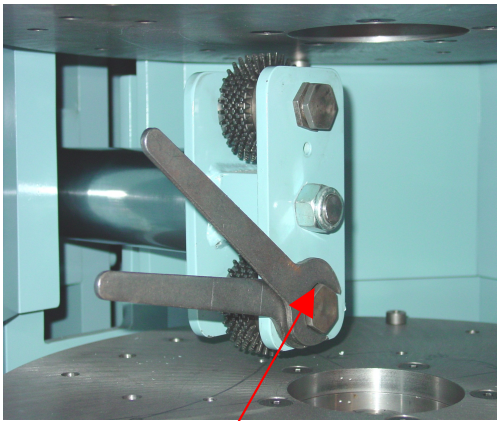
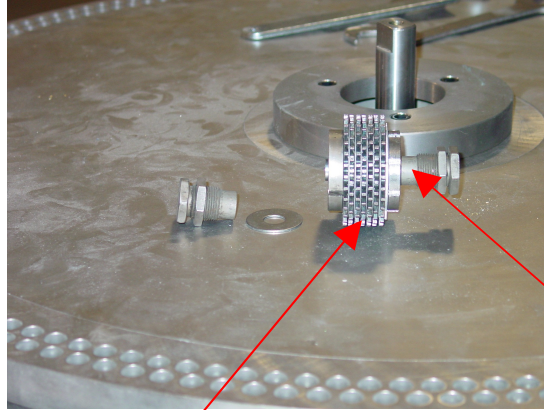

Figure 28 Changing stars inside machine
Figure 31
B. Changing Star Cutters (Figures 28, 29, 30, on page 20 Figures 31 & 32 on page 21)
1. The stars can be changed inside the machine as shown in figure 28 or the dresser shaft can be removed from the dresser block as shown in figures 29 and 30. **The dresser is heavy use caution when handling.**